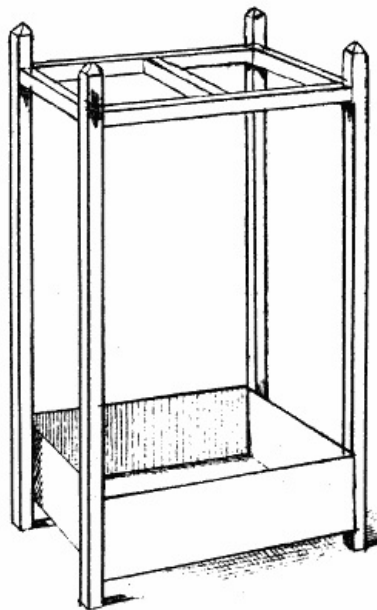

FIG. 30.
*A Doll's Umbrella Stand* is a very happy little idea—very simple but extremely effective. At the two ends of a small match-box tray, long stales are glued, projecting underneath to act as short legs to keep the tray from the ground. Near the top of these upright stales, four others are fixed to act as a strengthening frame. These last should be secured in place with doll pins in addition to the ordinary dab of tube glue. Then across the frame so made should be fixed one or two short lengths of stale in order to divide the stand into two or three compartments. Fig. 30 shows the completed stand.